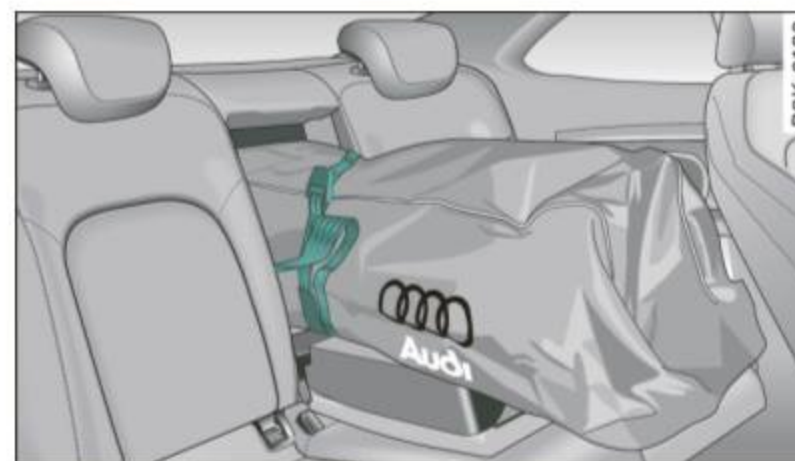

Fig. 88 Securing the objects in the ski sack
- Pull the safety belt taut ⇒ fig. 88 at the free end of the belt.